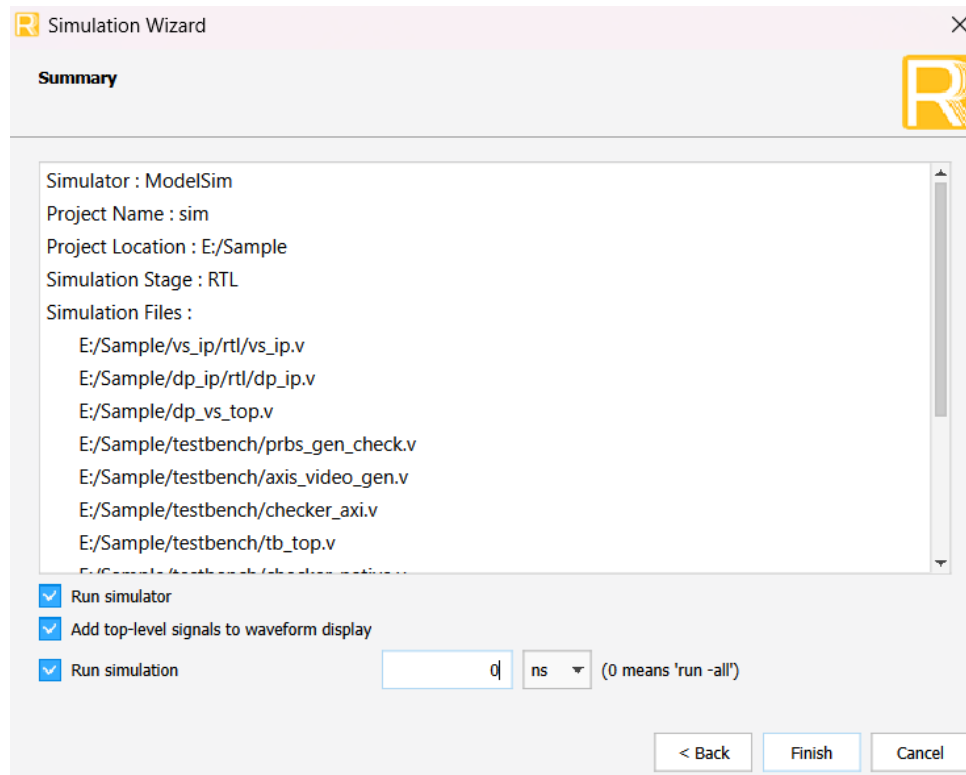

Figure 5.14. Run Simulation value of 0 for Run all
- Change the simulation time to **0 ns** to run all the simulation as shown in Figure 5.14. Click **Finish** to run the simulation.